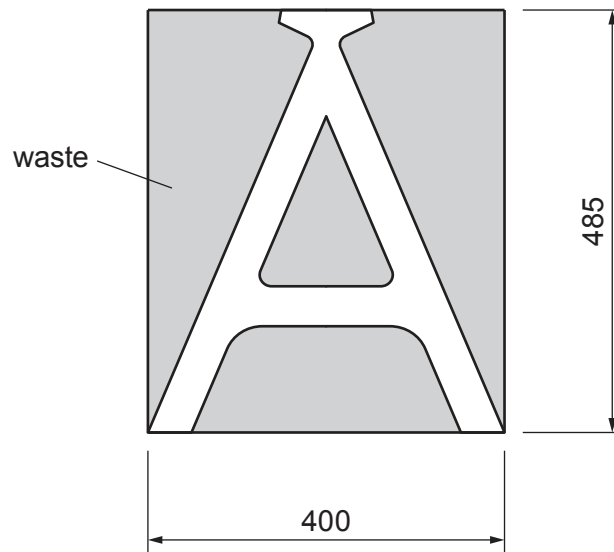

Fig. 11.2
- (b) Fig. 11.2 shows the shape of frame **A** marked out on a sheet of plywood. Use sketches and notes to show how the shape could be cut out. Name all the tools and equipment used.